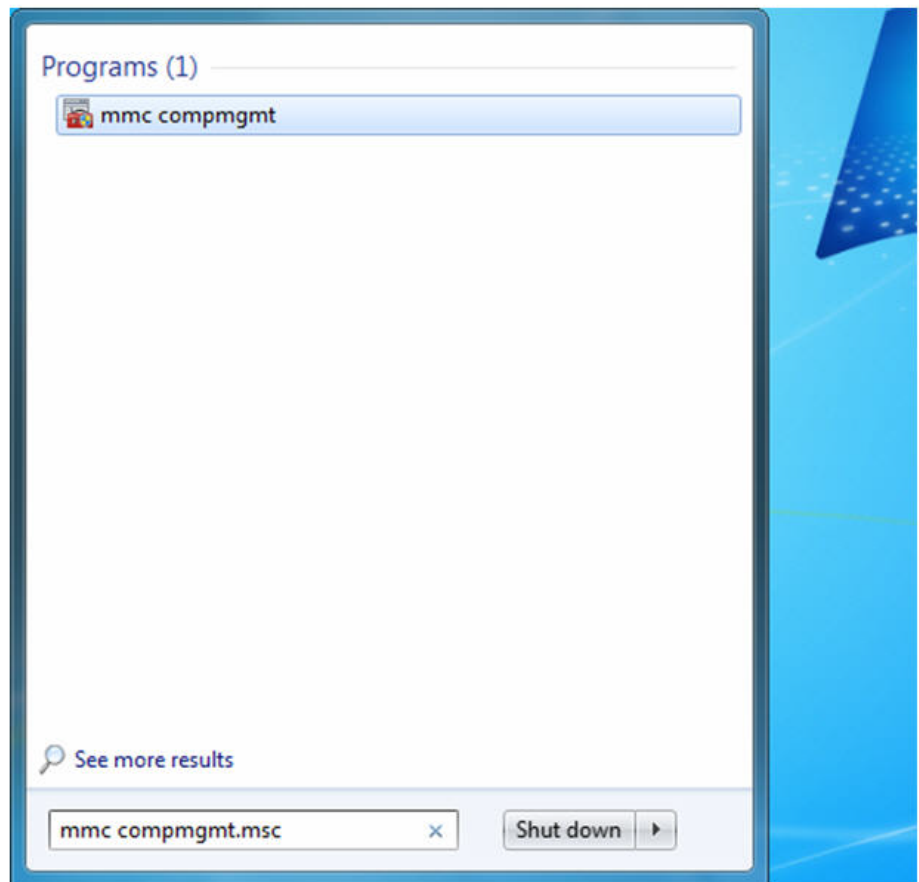

Figure 13. Windows 2008 R2 and Windows 7 Search Box
1. Select the Start button. See Figure 13 on page 45.